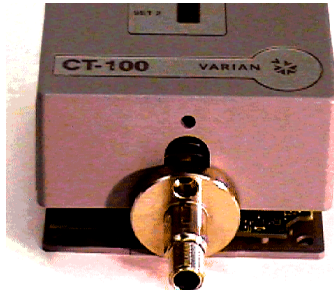

Figure 17 Positioning the Sensor
- Rotate the sensor so the Allen screw anchor hole is at the top of the assembly and is visible through the hole in the cover as shown in Figure 17.